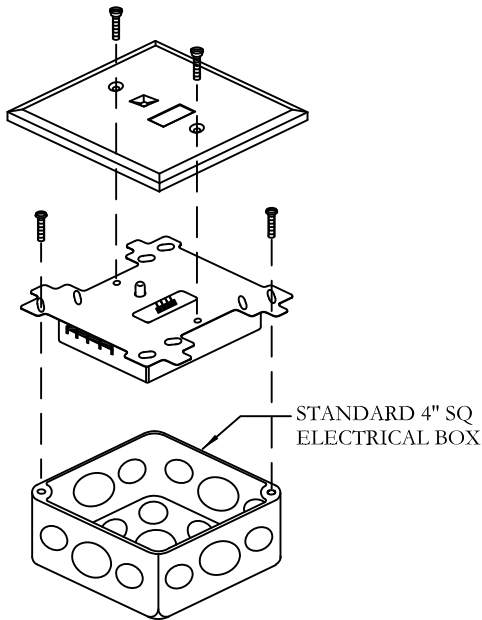

FIGURE 2
The Dual Input Monitor module is mounted as shown in Figure 2 on page 2 of this instruction.
- 2) Secure the module to a U.L. listed electrical box (supplied by installer), as shown in Figure 2.